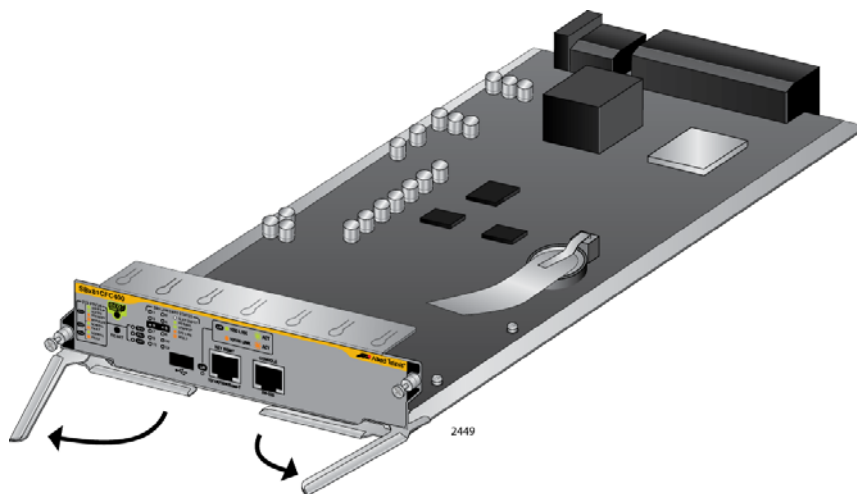

Figure 68. Opening the Locking Handles on the AT-SBx81CF400 Controller Fabric Card
5. Move the locking handles on the front panel to the open position, as shown in Figure 68.